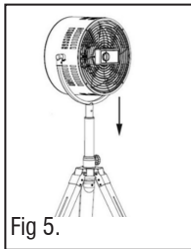

Fig 5.
3.2.2.2. Insert the pipe into the top of the height adjustable pipe and align the holes of the pipe as shown in Fig. 5.